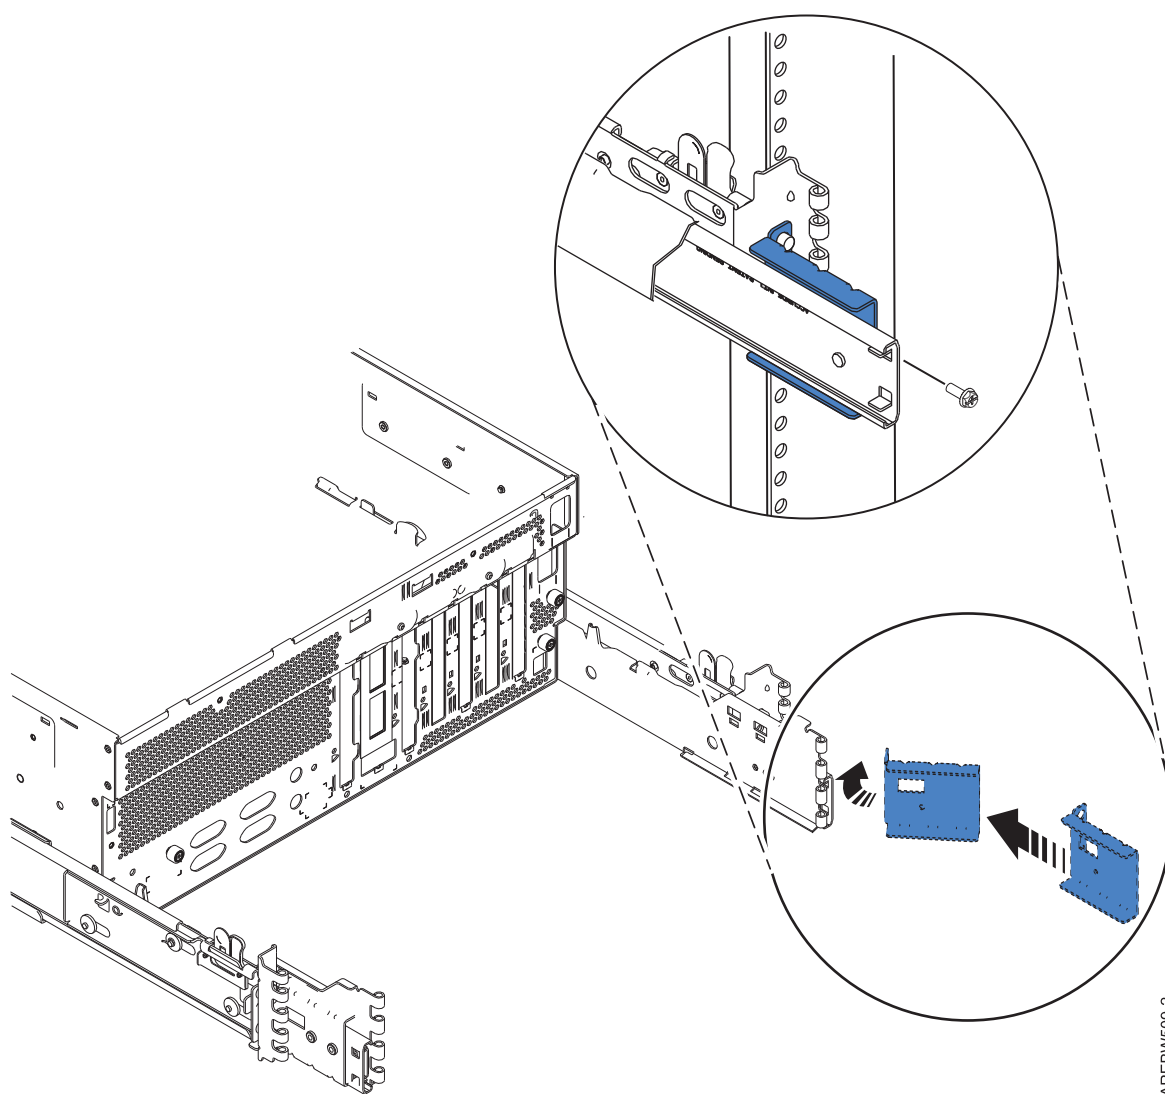

Figure 37. Installing the rail support brackets
5. From the back of the rack, as shown in Figure 37 on page 44, install the rail support bracket on the alignment pins. Then insert a large rail-retaining screw into the hole that is located between the two back alignment pins. Partially tighten the screw. Do not tighten completely at this time.